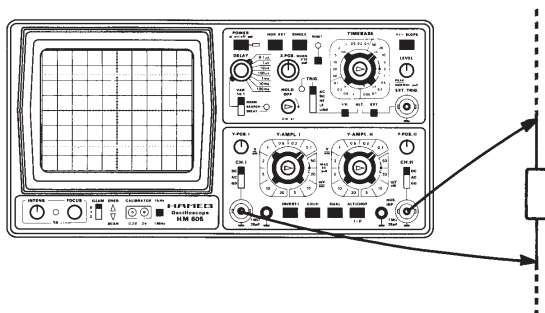

Fig. 7, Circuit under test
- Connect both probes across the circuit component, where the signal is to be measured. (See Fig. 7)